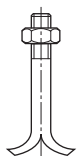

Fig. 9: Anchor bolts
- Fit anchor bolts (see Fig. 9) in the provided drilled holes.